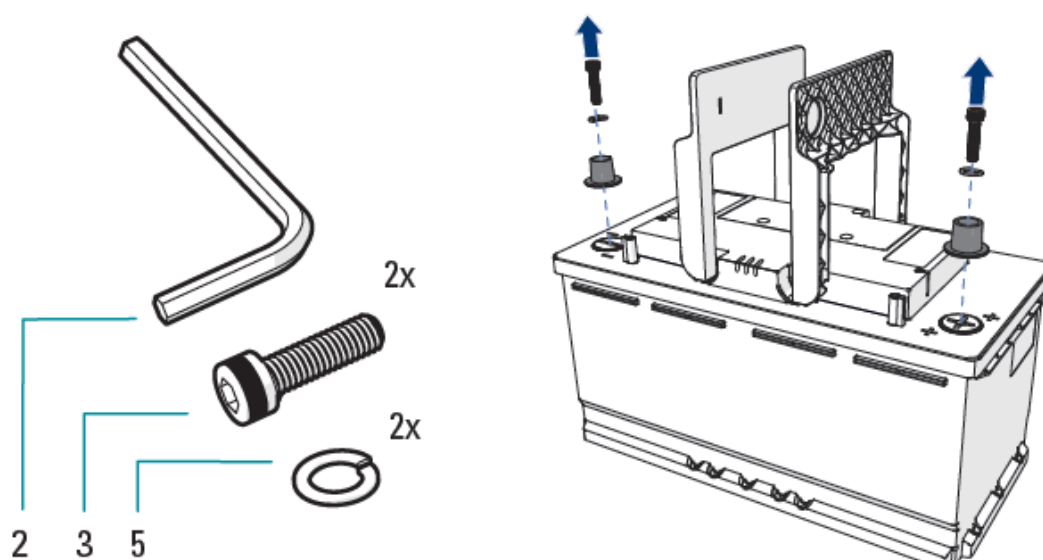

Figure 7: Remove automotive power terminals
1. Remove the automotive power terminals, see Figure 7.